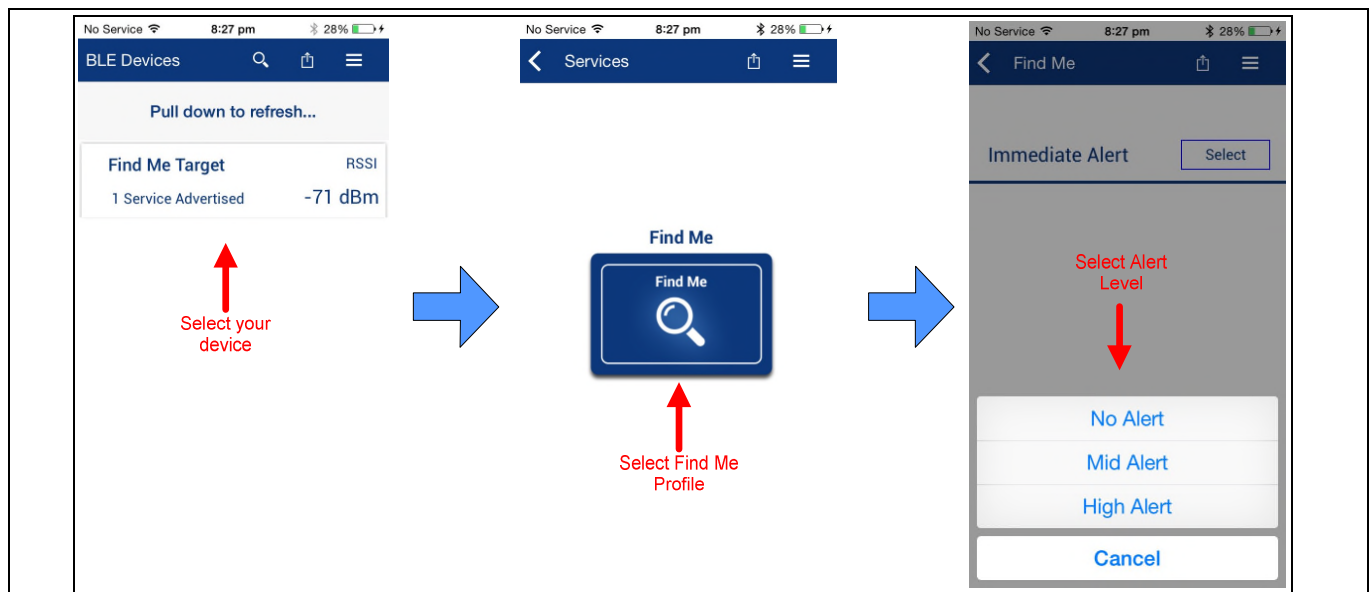
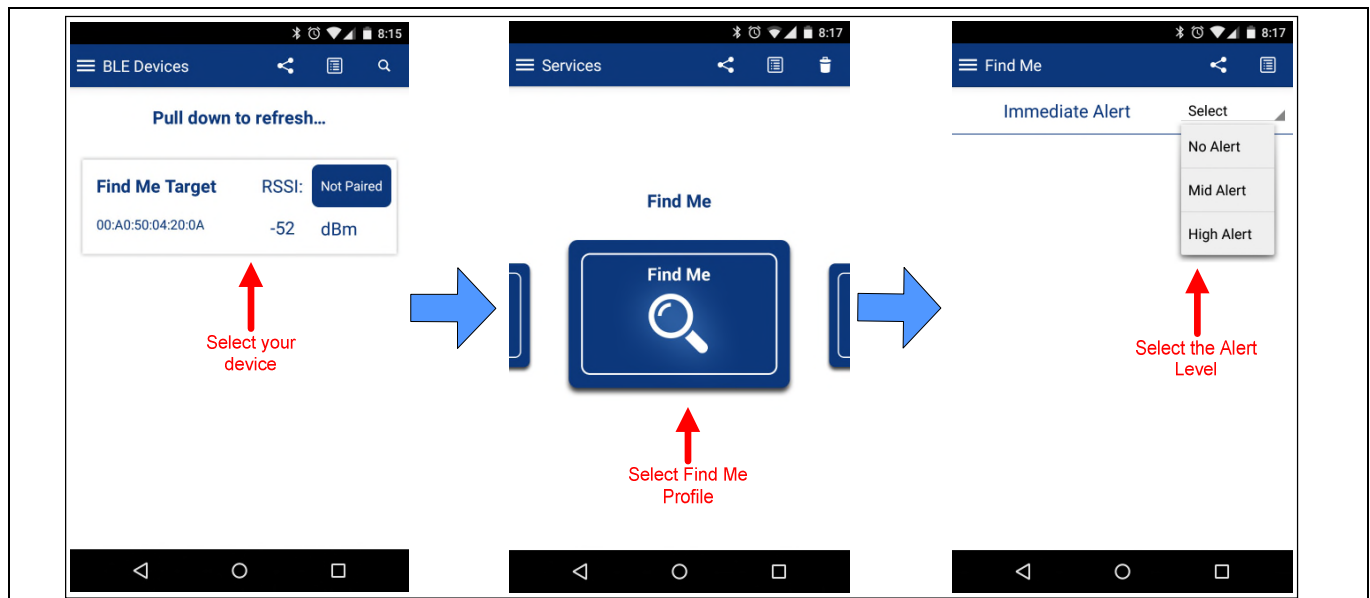

Figure 31 Testing with the AIROC™ Bluetooth® Connect app on iOS
Figure 32 Testing with the AIROC™ Bluetooth® Connect app on Android
3. To test using the AIROC™ Bluetooth® Connect mobile app, follow these steps (see equivalent AIROC™ Bluetooth® Connect app screenshots in Figure 31 for iOS and Figure 32 for Android).